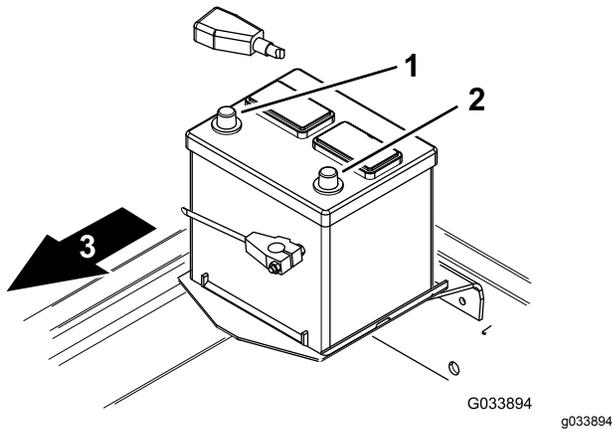

Figure 11
2. Install the positive-battery cable (red) to the positive (+) terminal, and slide the rubber boot over the positive terminal (Figure 11).
3. Install the negative-battery cable (black) to the negative (-) terminal of the battery (Figure 11).